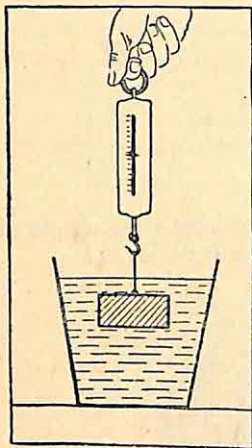

Fig. 68
Suppose you lowered a lump of solid iron into water as in fig. 68. You know it is too heavy to float; its weight will not appear to vanish as the weight of a ship does. What will happen?
71. How much does a 7 lb. iron weight appear to weigh when immersed in water? (See fig. 68.)
This upthrust is not enough to support the whole weight of the iron. If, for example, a cubic foot of iron were immersed as in fig. 68, the upthrust on it would be enough to support a cubic foot of water. Since a cubic foot of iron is heavier than a cubic foot of water, the iron if let go would sink.